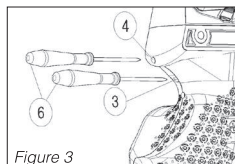

Figure 3
- 17 Stiffness of spring of trigger squeezing wall which is the second stage is adjusted with a plain screwdriver No. 6 in figure 3 No. by turning it through hole No. 4. (Screwdriver tip width should be no more than 3 mm).
- 20 Trigger wall moving path setting: This setting is made by flat-tip screwdriver No. 6 through hole 3 figure 3.